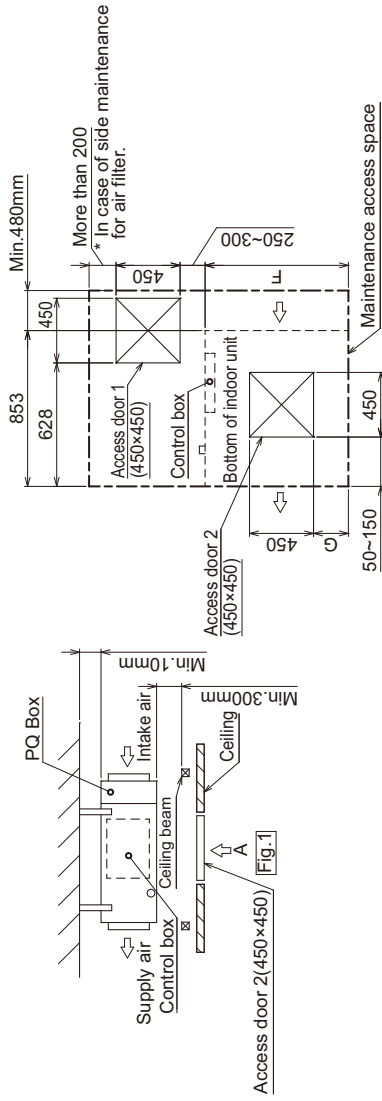
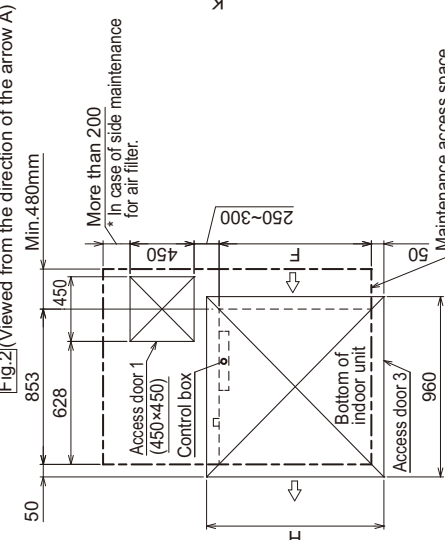

Fig.1 (Viewed from the direction of the arrow A)
Fig.3 (Viewed from the direction of the arrow B)
(1) When a space of 300mm or more is available below the unit between the unit and the ceiling. (Fig.1)
(At least 20mm of space should be left below the unit as shown in Fig.3.)
(3) For maintenance if there is more than 170mm from the top surface, the cover can be pulled out without removing the PQ attachment. (Fig.1, Fig.3)
- (1) When a space of 300mm or more is available below the unit between the unit and the ceiling. (Fig.1)
- (2) When a space of less than 300mm is available below the unit between the unit and the ceiling. (At least 20mm of space should be left below the unit as shown in Fig.3.)